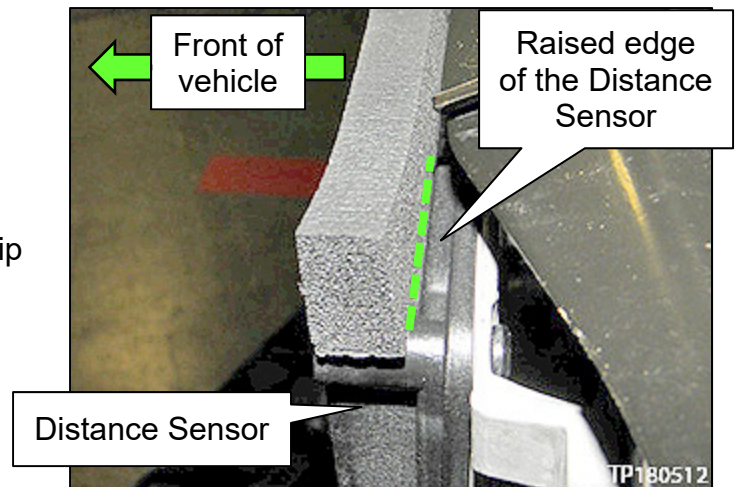

Figure 6
- Figure 6 illustrates the alignment of the rear facing edge of the foam strip against the raised edge of the Distance Sensor.